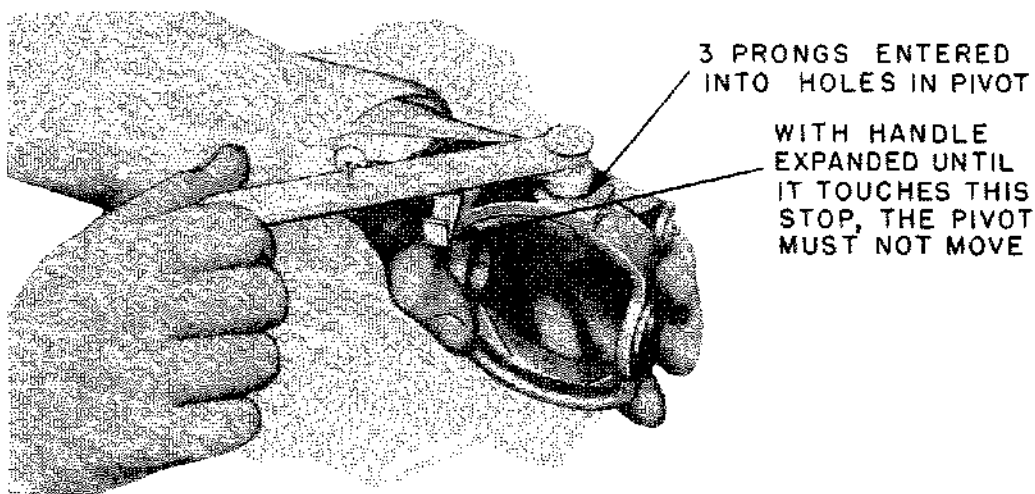

FIGURE 23 CHECKING TO INSURE THAT THE AIR PIVOT FITS TIGHTLY IN THE RECESS
9. Check to insure that the pivot is tight enough in the recess, using fixture T-22023 as shown in Fig. 23. The three prongs are inserted in the holes of the pivot and the movable arm which is connected with the spring is turned until it just touches the stop. The pivot must not move. If it does move there are two ways of tightening it in the recess. The first and best way is to remove the pivot and plate the shoulders so as to increase the diameter. The second method is to peen in the metal around the pivot with a very small flat-faced punch (1/32 inch or slightly smaller). Care must be exercised not to peen the metal in excessively or distort the gimbal ring.